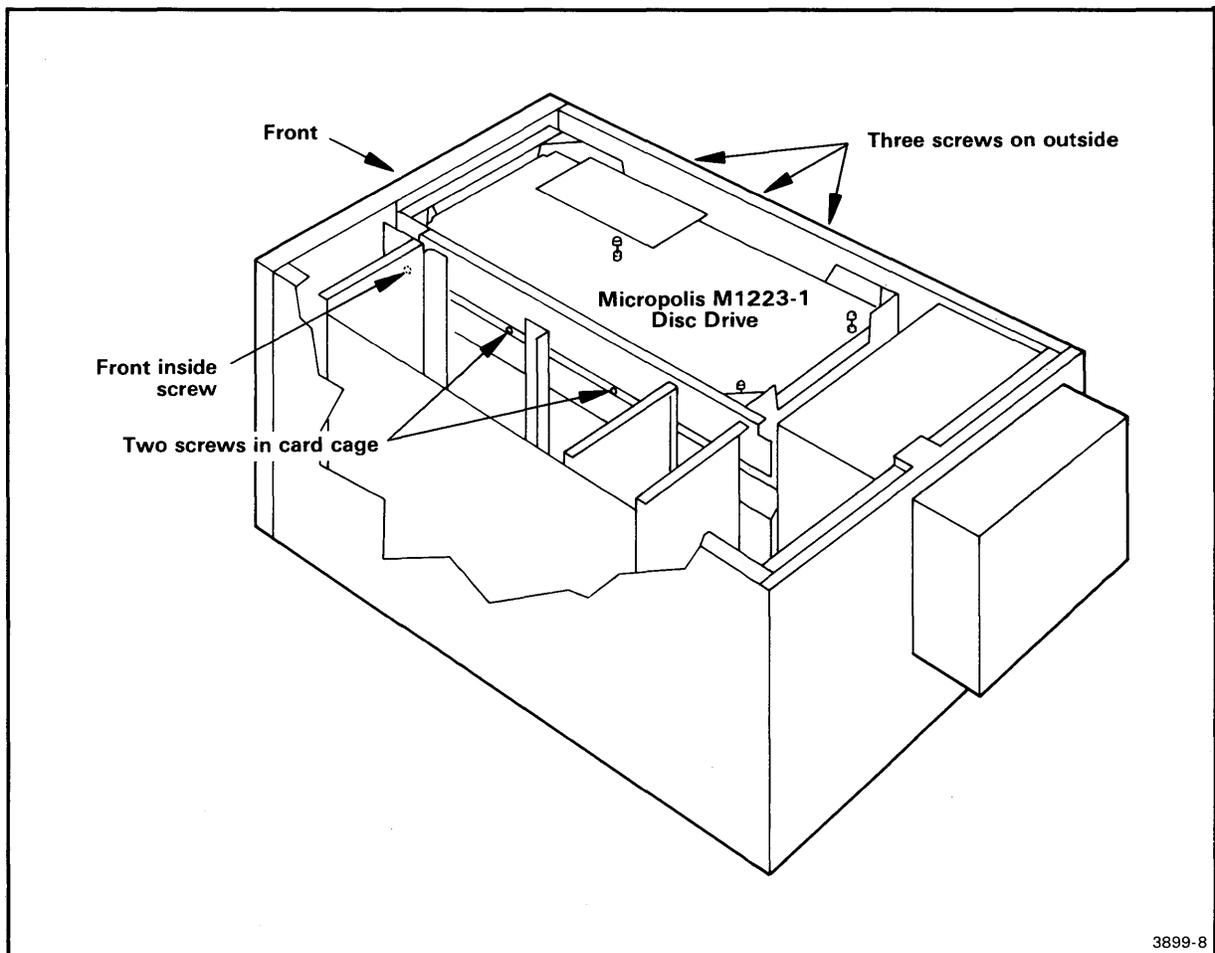

Fig. 2-6. Removing the hard-disc drive unit.
3. Using a Phillips screwdriver, remove the three mounting screws on the outside of the hard-disc drive, and the front inside screw. Refer to Fig. 2-6.